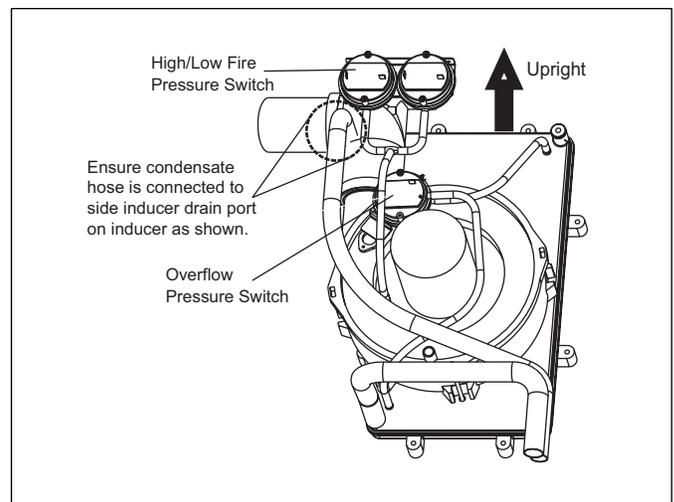

Figure 19 Pressure switch position
**For installations with left air discharge and venting outlet through furnace top panel (see Figures 19 and 20).**
14. Relocate the High/Low Fire Pressure Switches (2) to the opposite side of the cabinet (as shown in Figure 19 and 20). Screws for mounting these switches should not interfere with any components inside the furnace.
**For installations with left air discharge and venting outlet through furnace side panel (see Figures 19 and 21).**
In this installation, hoses connecting between ports of overflow protection pressure switch (overflow switch) and pressure tabs on the condensate collector box **MUST** be switched. The overflow switch has two ports, which is different from two other regular pressure switches that have only one port. Make sure that black port (positive) is connected to the lower position tap on condensate collector box and gray port (negative) to higher tap of condensate box. Connecting incorrectly will result in failure to protect condensate overflow. See Fig. 19.